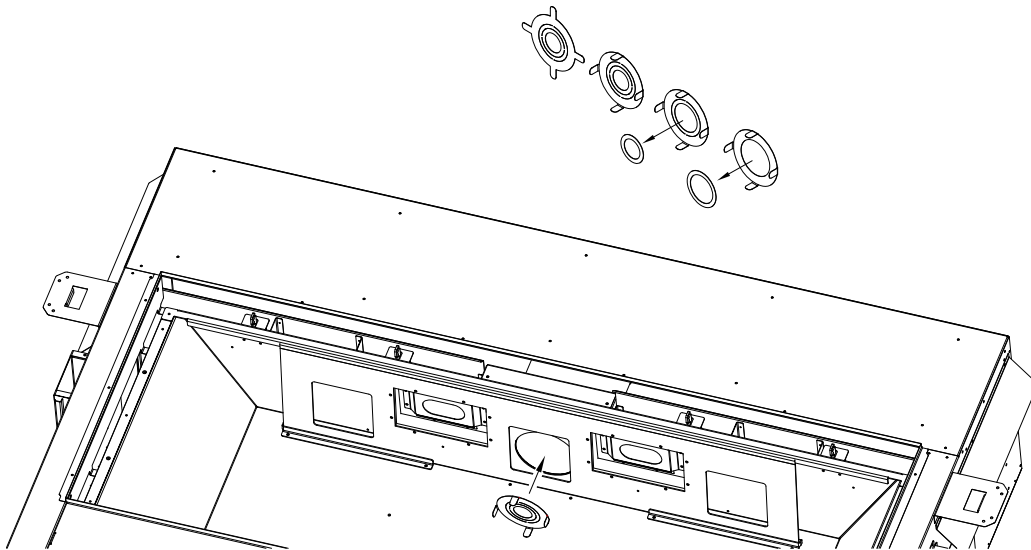

Figure 11.4 - Vent Restrictor Installation
Vertical terminations may display an active, compact flame. If this appearance is not desirable, a restrictor plate may need to be installed or modified after vent termination installation. Access to the vent exit for restriction can be reached through the fireplace baffle. See Figure 11.4
- 3. Insert restrictor plate into the 5” (127mm) exhaust pipe with the tabs pointing towards you. See Figure 11.4.
- 2. Remove the restrictor plate from the 5” (127mm) exhaust pipe by pulling the restrictor plate down and out. See Figure 11.4.